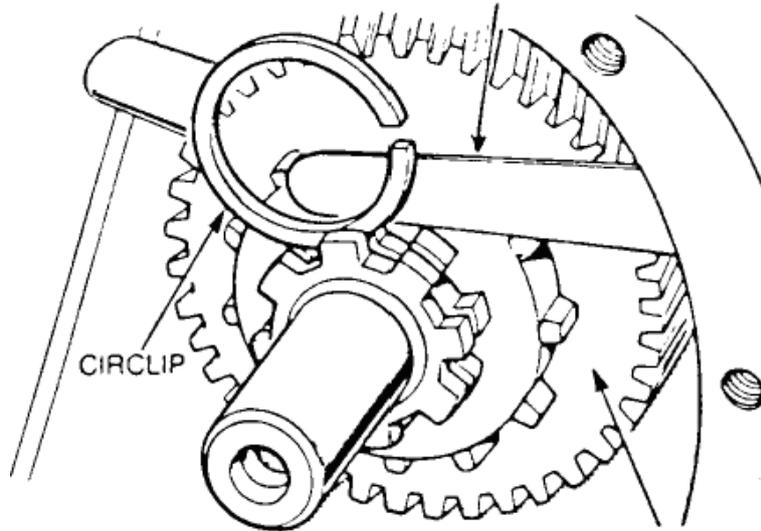

Figure 91 Adjustment of the Mainshaft Pre-load
- r.** Secure the transfer gear to the mainshaft with a new circlip (Figure 91) and measure the clearance between the circlip and the transfer gear. The maximum clearance between the circlip and the transfer gear is 0.050 mm (0.002 in). To obtain the correct pre-load on the mainshaft, insert a shim of the correct thickness.